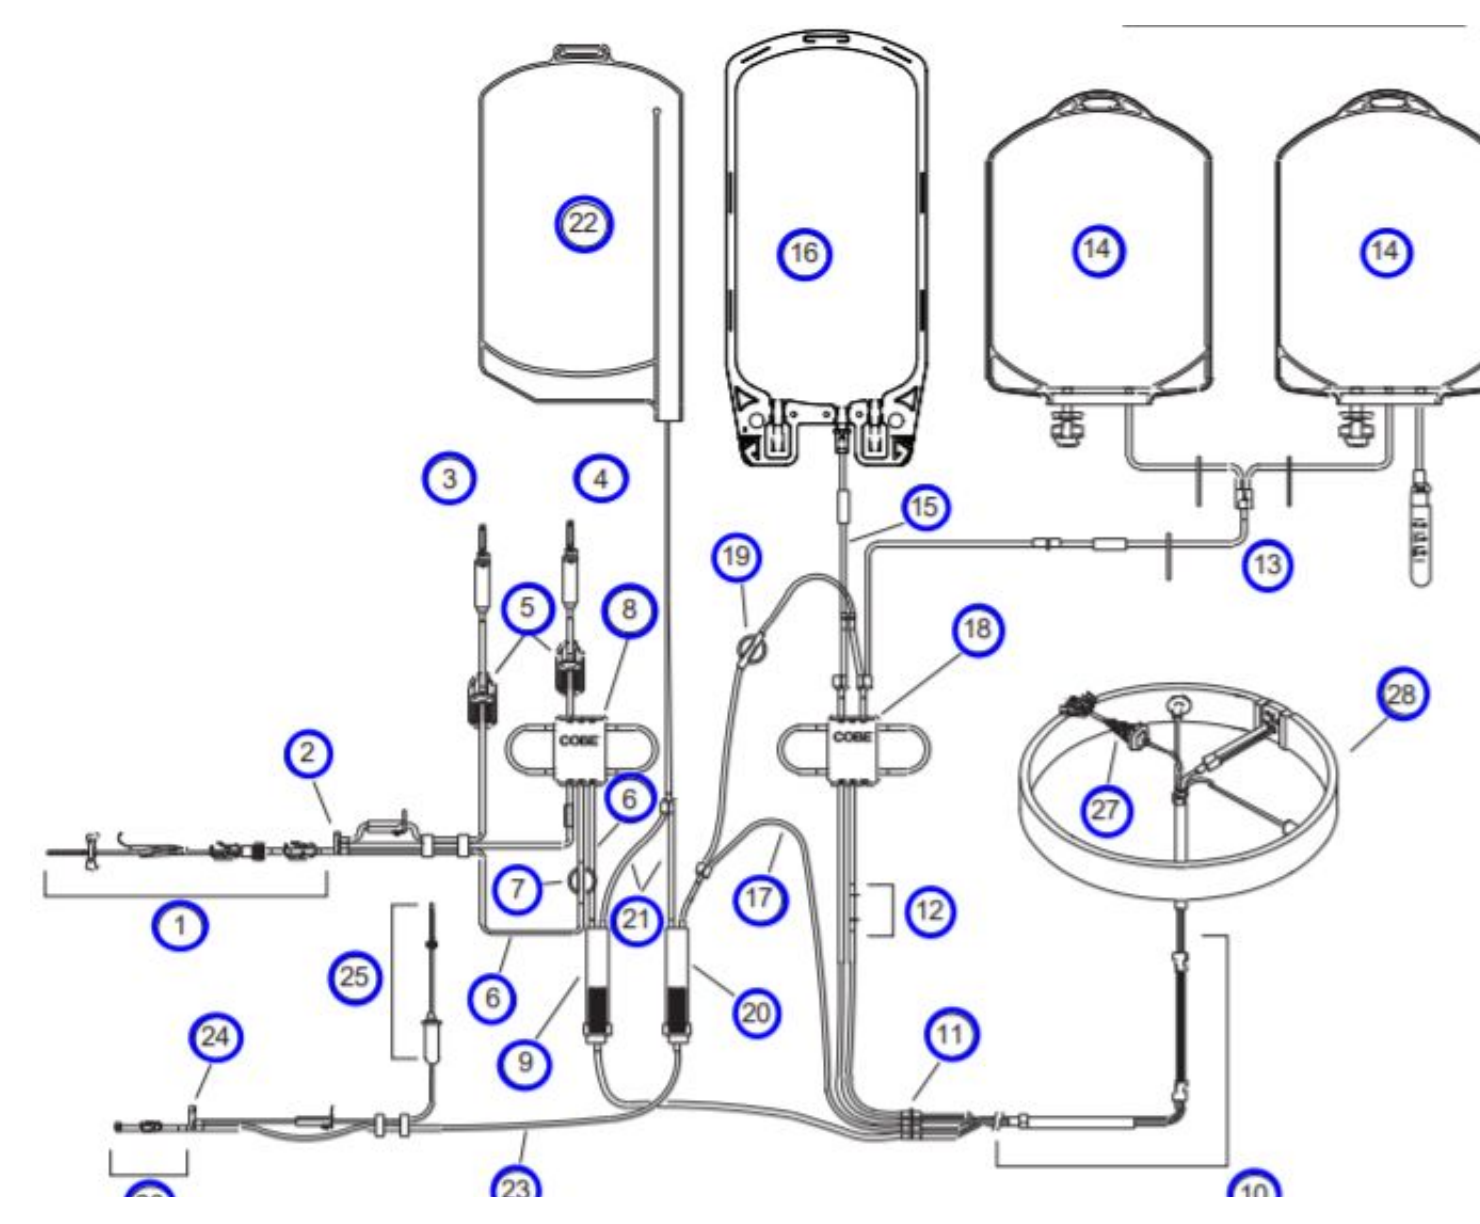

Figure 4: Schematic for Extended-Life Plateletpheresis Tubing Set
- Essential components that cannot be fabricated from scratch readily (Figure 4)
- Access Pump Cartridge (8)
- Waste Collection Bag (22)
- Specimen Collection Bag (14)